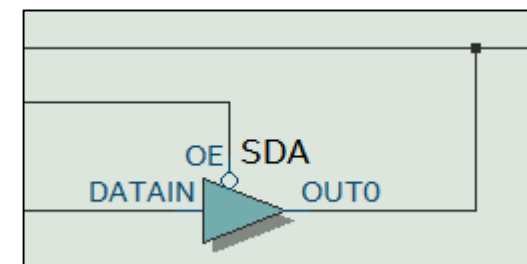

Figure 8 – Tri-state buffer
- The key to resolving any potential bus contentions is to utilise a tri-state buffer as illustrated in Figure 8.